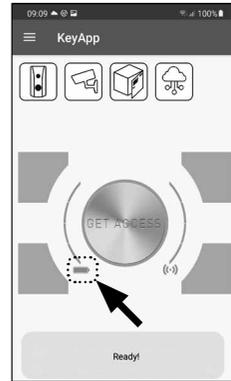

Fig. 122
- ! **Tip:** It is recommended that the batteries in the cylinder and keypad are always replaced at the same time. Nonetheless, the battery status of the cylinder can be checked separately at any time. This can be found on the main screen of the secuENTRY KeyApp (Fig. 122).